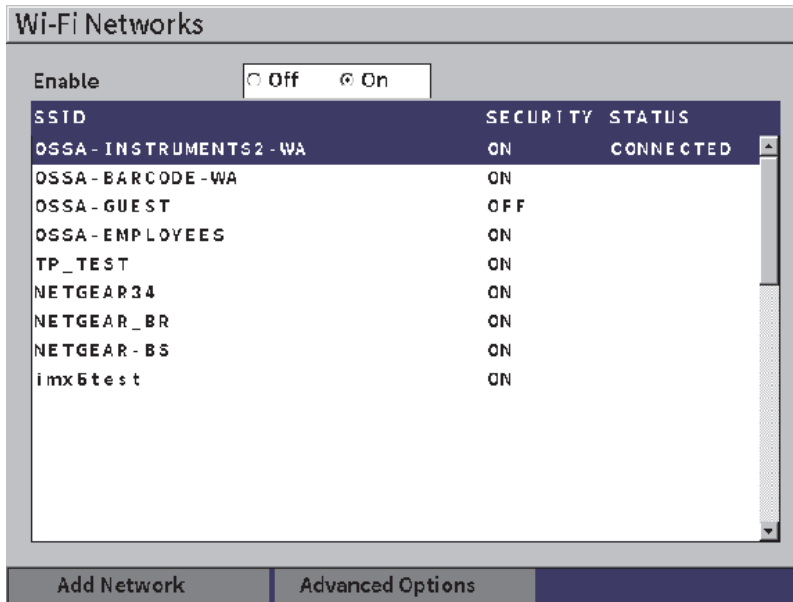

Figure 10-1 Wi-Fi Networks setup page
2. Select the **Wi-Fi** icon () to open the **Wi-Fi Networks** setup page (see Figure 10-1 on page 146).